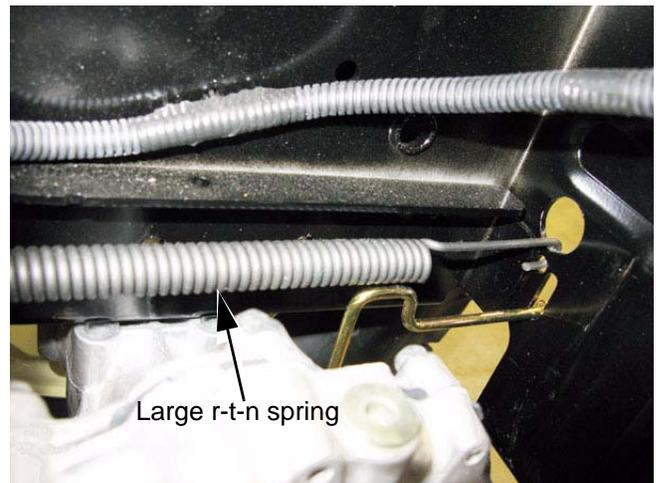

Figure 5.73
6. Unhook the large return-to-neutral spring from the back of the tractor frame. Leave the other end connected to the top of the return-to-neutral cam. See Figure 5.73.